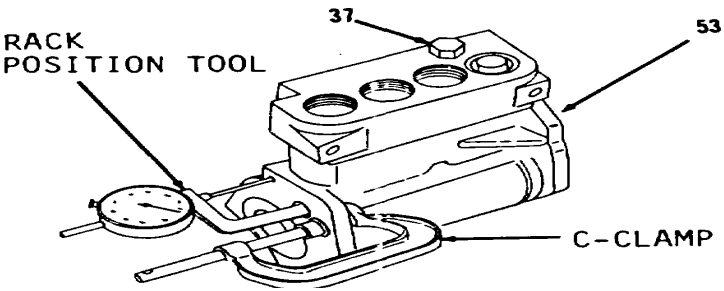

Figure 3-96.
- 32. Measure rack (37, Figure 3-96) travel. Install rack position tools, contact pin and C-clamp. Correct rack travel is 0.618 inch. A smaller measurement is an indication of wrong installation of items 27 thru 20. Remove tooling and install remaining items.